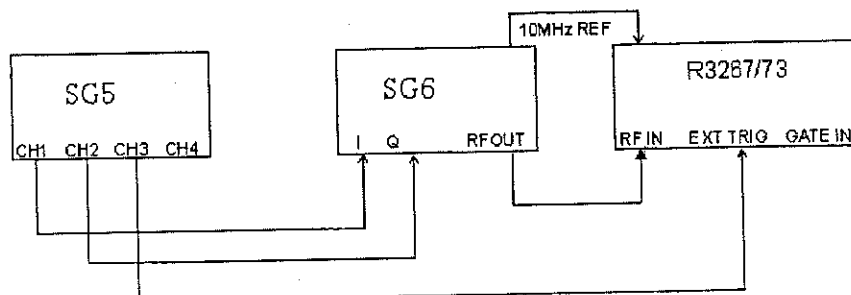

Figure 3-26 Setup of QPSK Measurement Test
1. Connect equipment as shown Figure 3-26.